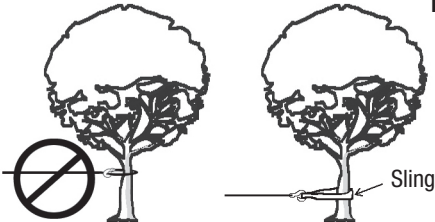

FIGURE 4
- 10. NEVER HOOK THE WIRE ROPE BACK ONTO ITSELF.** This will damage the wire rope. Use a winch sling, tree saver or other recommended accessory for this type connection. (**FIGURE 4**)